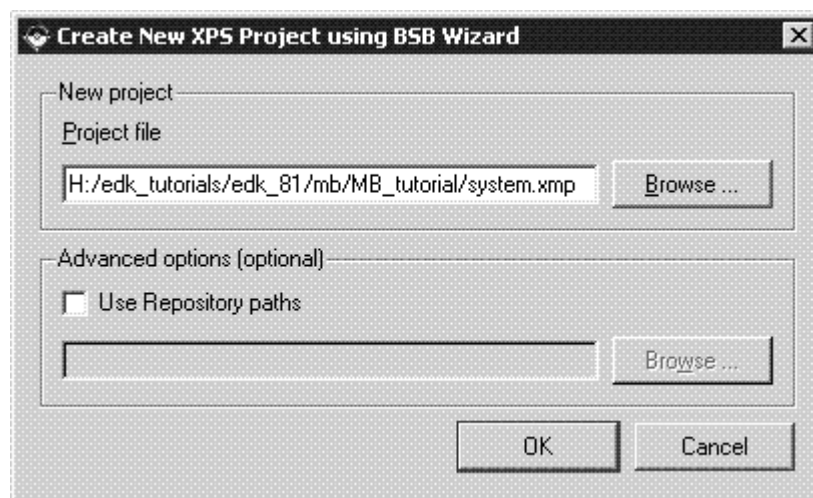

Figure 1: Create New Project Using Base System Builder Wizard
- Select Base System Builder Wizard (BSB) to open the Create New Project Using BSB Wizard dialog box shown in Figure 1.